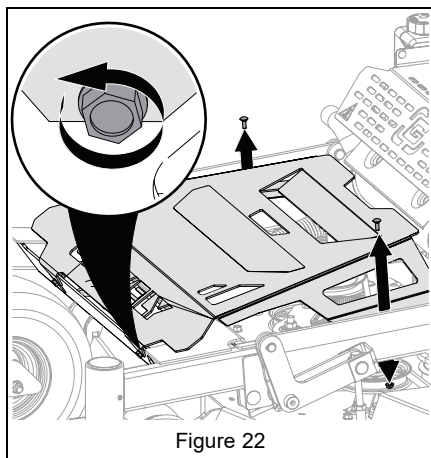

Figure 22
5. Remove rear mounting hardware and loosen front tapping screws retaining belt access panel. Remove panel. See Figure 22.